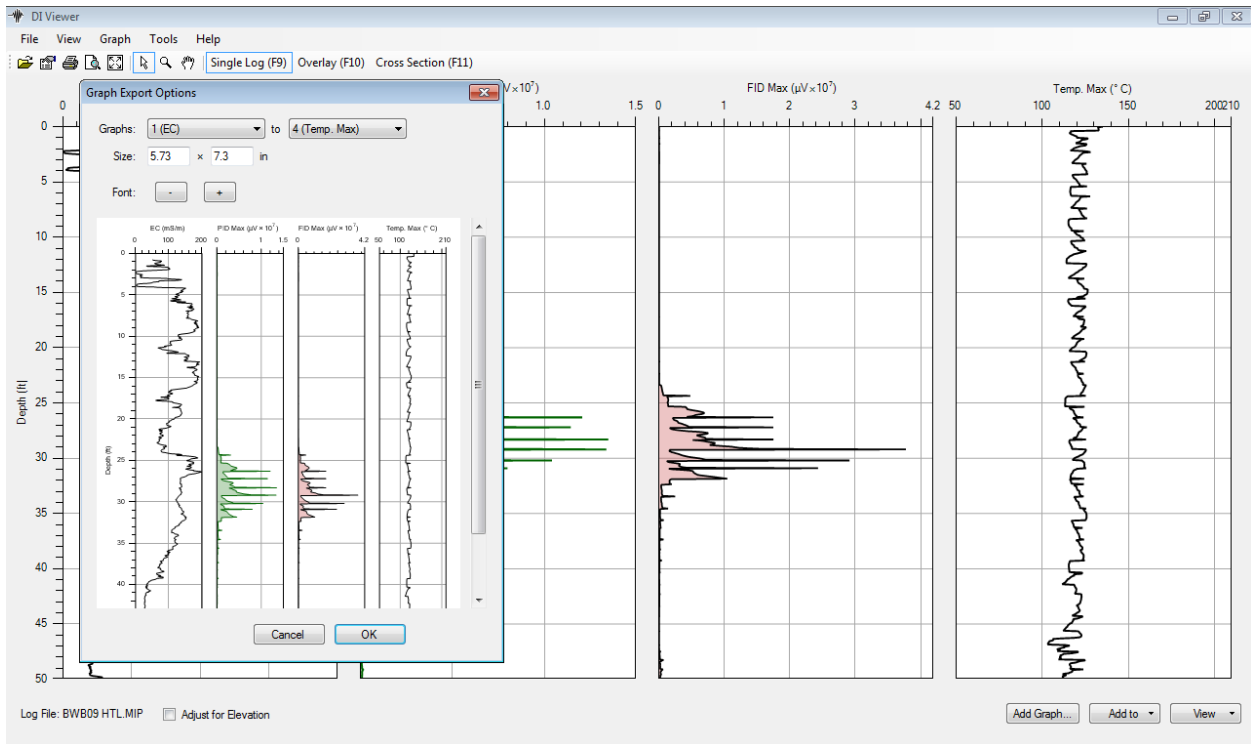

Figure 45: Exporting Graph Images
2. Select *Export Graph...* which will provide a preview of the exported graph (Figure 45).
3. On the Preview screen select which opened graphs are desired to export (Figure 45).